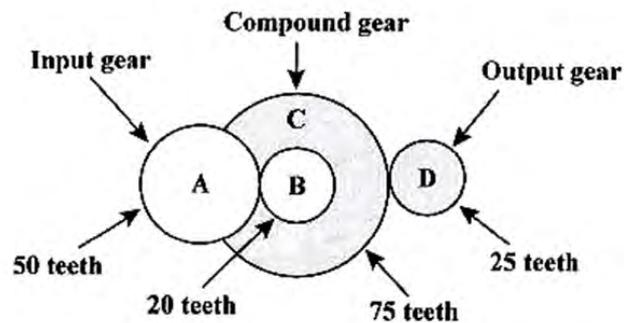

Fig. 2
- 2 (a) Fig. 2 shows a diagram of a compound gear train consisting of four gears; A, B, C and D. Gears B and C rotate together on the same shaft.